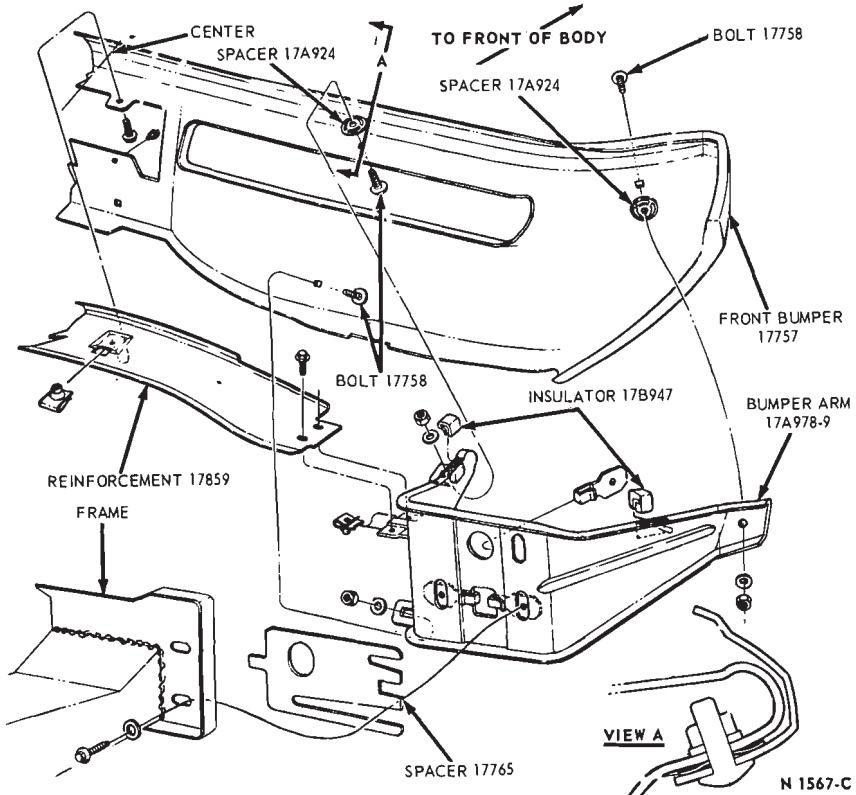

FIG. 2—Front Bumper Installation—Mercury (Low Series)
- Remove the bumper attaching bolts and remove the bumper from the bumper arms (Fig. 2).
- Position the bumper to the bumper arms and install the attaching bolts and nuts. Be sure the spacers are installed in the locations shown in Fig. 2.